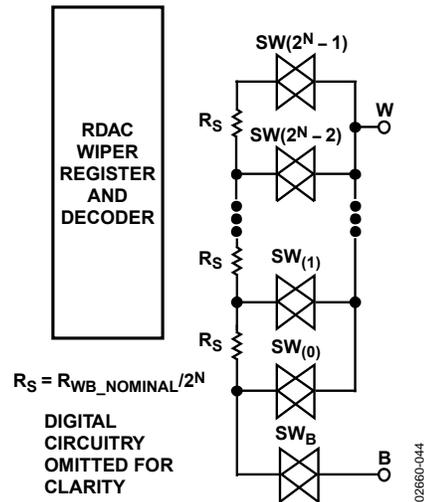

Figure 32. Equivalent RDAC Structure
The RDAC contains multiple strings of equal resistor segments with an array of analog switches that acts as the wiper connection. The number of positions is the resolution of the device. The ADN2850 has 1024 connection points, allowing it to provide better than 0.1% setability resolution. Figure 32 shows an equivalent structure of the connections among the three terminals of the RDAC. The SWB is always on, while the switches, SW(0) to SW(2N - 1), are on one at a time, depending on the resistance position decoded from the data bits. Because the switch is not ideal, there is a 30 Ω wiper resistance, RW. Wiper resistance is a function of supply voltage and temperature. The lower the supply voltage or the higher the temperature, the higher the resulting wiper resistance. Users should be aware of the wiper resistance dynamics, if accurate prediction of the output resistance is needed.
The 10-bit data-word in the RDAC latch is decoded to select one of the 1024 possible settings. The following description provides the calculation of resistance,  $R_{WB}$ , at different codes of a 25 k $\Omega$  part. The first connection of the wiper starts at Terminal B for Data 0x000.  $R_{WB}(0)$  is 30  $\Omega$  because of the wiper resistance, and it is independent of the nominal resistance. The second connection is the first tap point where  $R_{WB}(1)$  becomes 24.4  $\Omega$  + 30  $\Omega$  = 54.4  $\Omega$  for Data 0x001. The third connection is the next tap point representing  $R_{WB}(2)$  = 48.8  $\Omega$  + 30  $\Omega$  = 78.8  $\Omega$  for Data 0x002, and so on. Each LSB data value increase moves the wiper up the resistor ladder until the last tap point is reached at  $R_{WB}(1023)$  = 25006  $\Omega$ . See Figure 32 for a simplified diagram of the equivalent RDAC circuit.